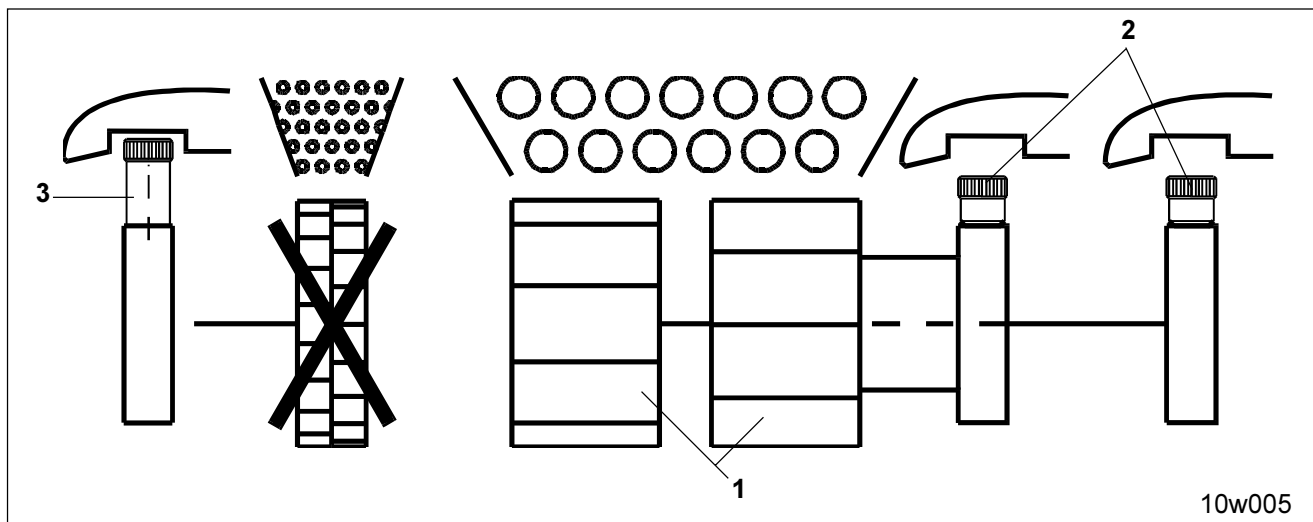

Fig. 15.5
For sowing with both main metering wheels (Fig. 15.5/1)
- Drive in the knurled bolt (Fig. 15.5/2) of the main metering wheels
- Drive out knurled bolt (Fig. 15.5/3) of the fine seed metering wheel.